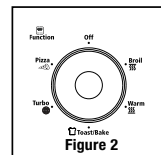

Figure 2
1. **Temperature Control Knob** – Adjust the dial thermostat to the desired temperature. (See Figure 2)